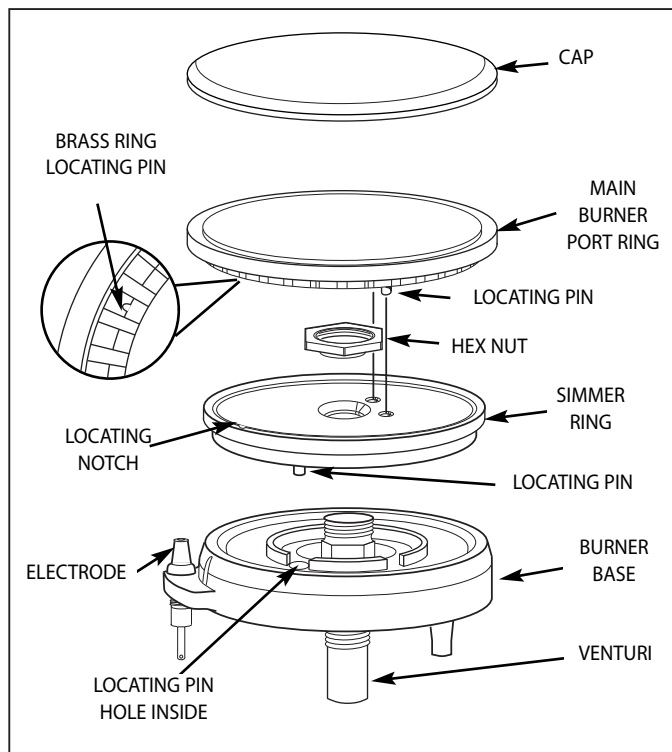

Fig. 13
For proper lighting and performance keep the burners clean. It is necessary to clean the burners if they do not light even though the igniter clicks, if there has been a severe boil over, or when the flame does not burn blue. Be certain all burner knobs are in the OFF position before attempting to clean the burners. The burners have been designed for ease in cleaning. When the grates and burners are cool, remove the grate. The burner cap and the brass port ring can easily be lifted off. Wash these parts in hot soapy water, rinse and dry thoroughly. The burner caps are porcelain enamel. Follow the directions on the previous page that were given for the burner grates. A bristle brush can be used to clean out the toothed burner ports, if necessary. Disassembly of the simmer ring is not recommended, however, it may become necessary to do so if the ports remain clogged after normal cleaning. If it is necessary to disassemble the simmer ring from the base, remove the hex nut at the top of the simmer ring. Clean the simmer ring with hot soapy water using a soft wire or plastic bristle brush, then dry thoroughly. Re-assemble the parts using the hex nut. After cleaning, it is important to make sure the locating pin on the bottom side of the simmer ring is properly aligned with the corresponding hole in the base and that the two locating pins (see insert-Fig.13) on the bottom side of the brass port ring are properly aligned with the locating notch and center holes on the top side of the simmer ring. Incorrect alignment will produce a potentially dangerous flame and poor burner performance.
- Is the two piece burner assembled correctly? (See page 23, fig. 13)
- Is the burner head assembly aligned correctly? (See page 23, fig. 13)